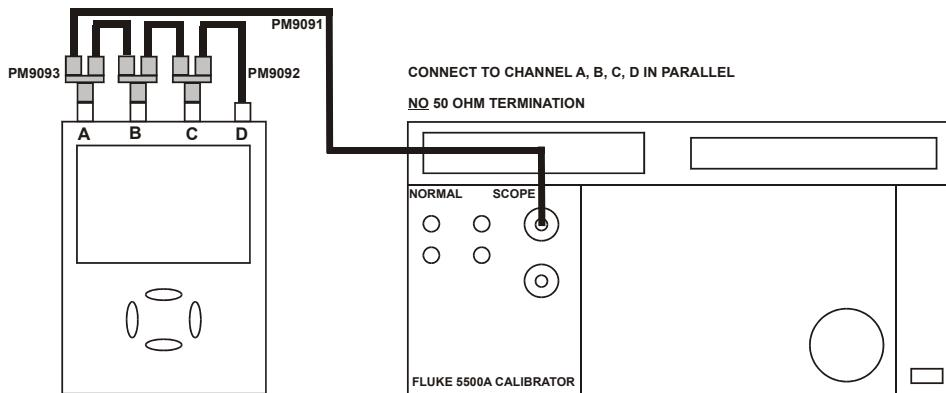

Figure 4-5. 5500A Scope Output to Test Tool Input A, B, C, D
1. Connect the Test Tool to the 5500A as shown in Figure 4-5. Do NOT use $50\ \Omega$ terminations!
1. Connect the Test Tool to the 5500A as for the previous test (see Figure 4-5).